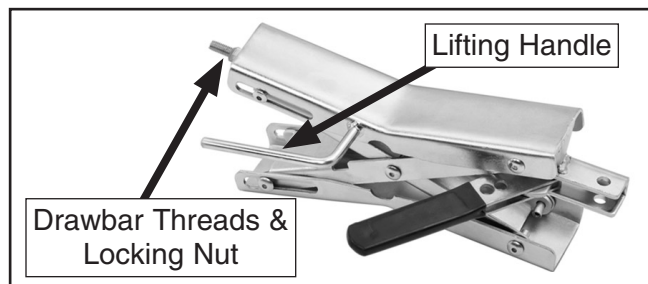

Figure 2. Chock/lock adjustment location.
1. Apply a few drops of general automotive oil on the drawbar threads shown in **Figure 2**.
4. Tighten the locking nut (see **Figure 2**) until it contacts the chock/lock mechanism.